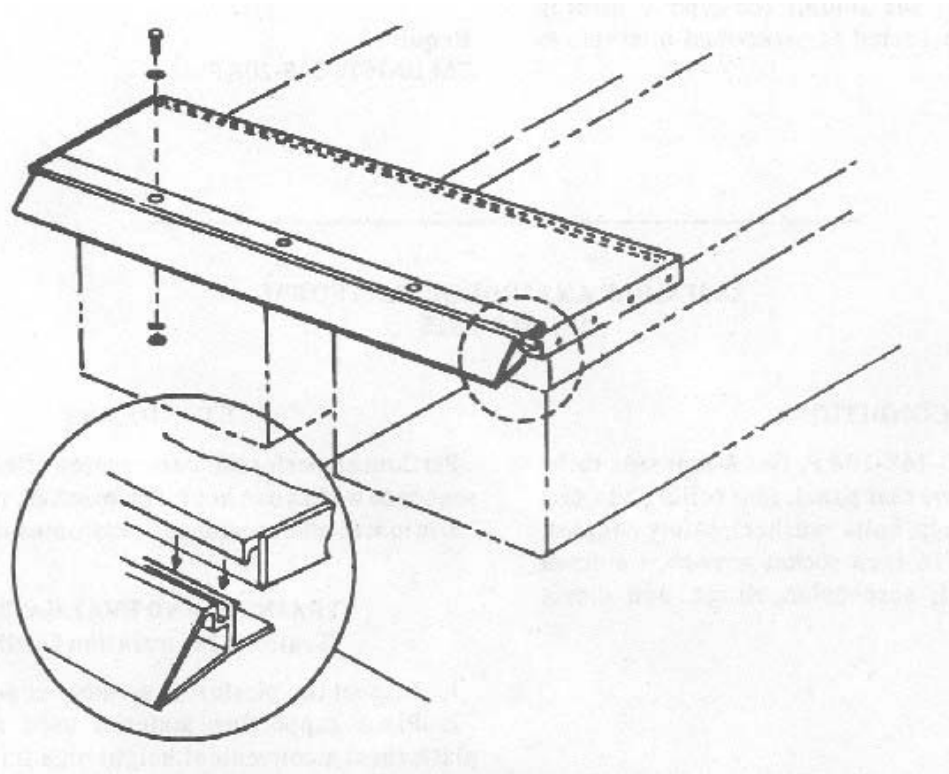

Figure 3-49
5. Attach the nose bumper. (See Figure 3-49)